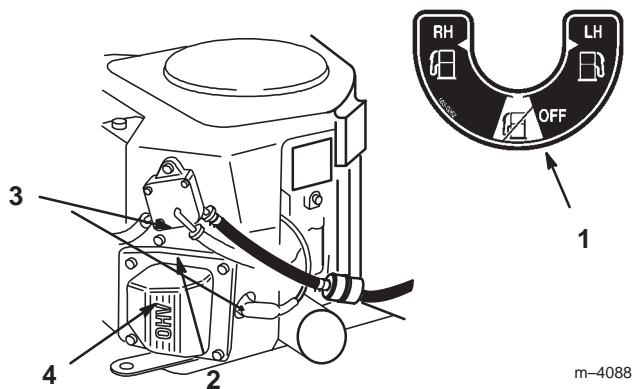

Figure 35
7. Install a new filter and move the hose clamps close to the filter (Fig. 35).
4. Close the fuel shut-off valve (Fig. 35).
5. Loosen the hose clamp at the fuel filter and slide it up the fuel line away from the fuel filter (Fig. 35).
6. Pull the fuel line off of the fuel filter (Fig. 35).
7. Open the fuel shut-off valve for the left and right tanks. Allow gasoline to drain into a gas can or drain pan (Fig. 35).
8. Install the fuel line onto the fuel filter. Slide the hose clamp close to the fuel filter to secure the fuel line (Fig. 35).